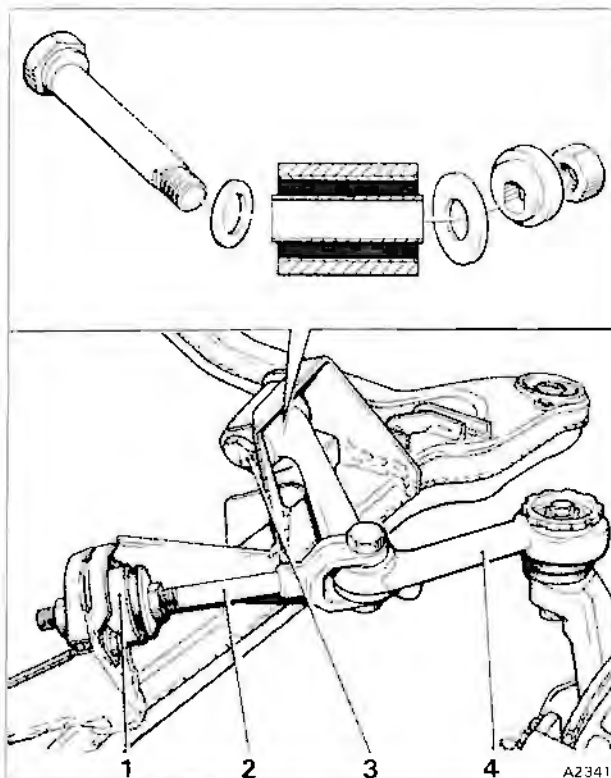

Fig. H5-3 Compliance assembly
5. Note the position of the arrow on the compliance lever pivot bolt (see fig. H5-3). Remove the bolt and withdraw the lever from the sub-frame bracket. Collect the special washers.
1. Ensure that the eccentric adjustment components on the compliance lever pivot are correctly located in the sub-frame bracket (see fig. H5-3). Turn the bolt until the arrow is in the position noted on removal.
Upper ball joint (see fig. H5-3)